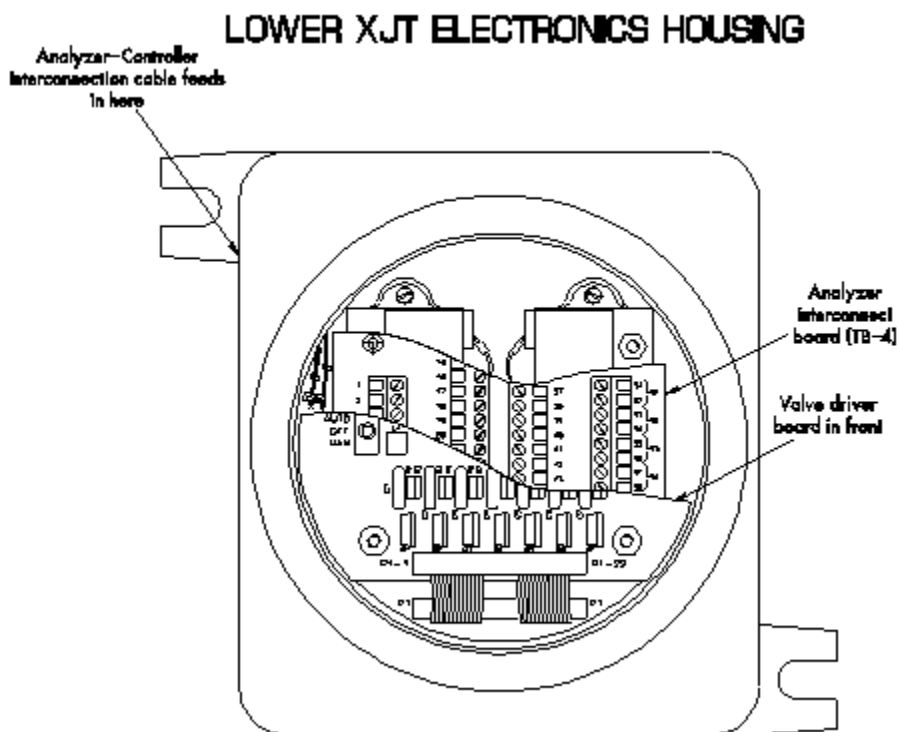

Figure 3-3. Behind the Condulet Cover is the Valve Driver Board, then TB-4
3. You will need to feed the Interconnect Cable through the inlet on the upper left side of the XJT box, and make connections to the interconnect Terminal Board (TB-4) which lies behind Valve Driver board (see Figure 3-3).